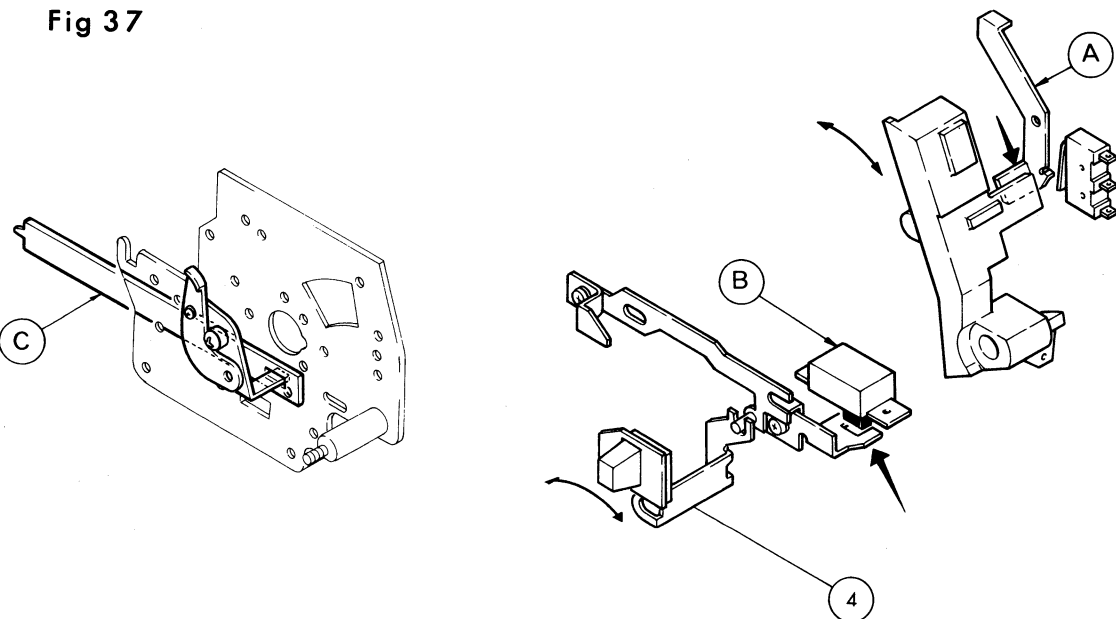

Fig 38
- (A) of Fig.38 is connected with the Pad Roller Lever (Parts List, 8-70).
- (B) of Fig.38 is connected with the M-O Switch Link I(Parts List, 8-61).
- (C) of Fig.38 is connected with the Reverse Lever II (Parts List, 8-51).
3. Adjust the position of the 2nd Sprocket Film Guide by (7) so that the guide can near to the 2nd Sprocket as close as possible, but they each do not touch with the other.